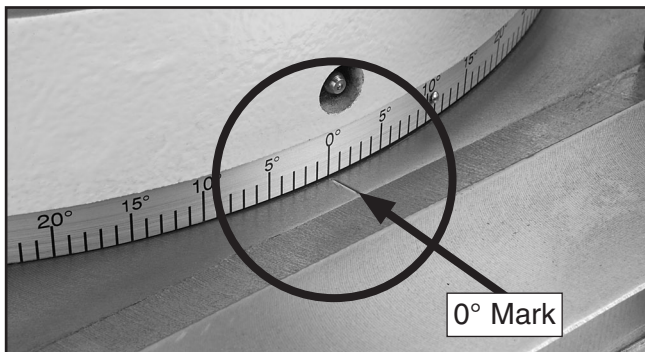

Figure 59. Bow and headstock moved to zero.
3. Raise the bow, move and lock the headstock to 0° (**Figure 59**), then lower the bow.